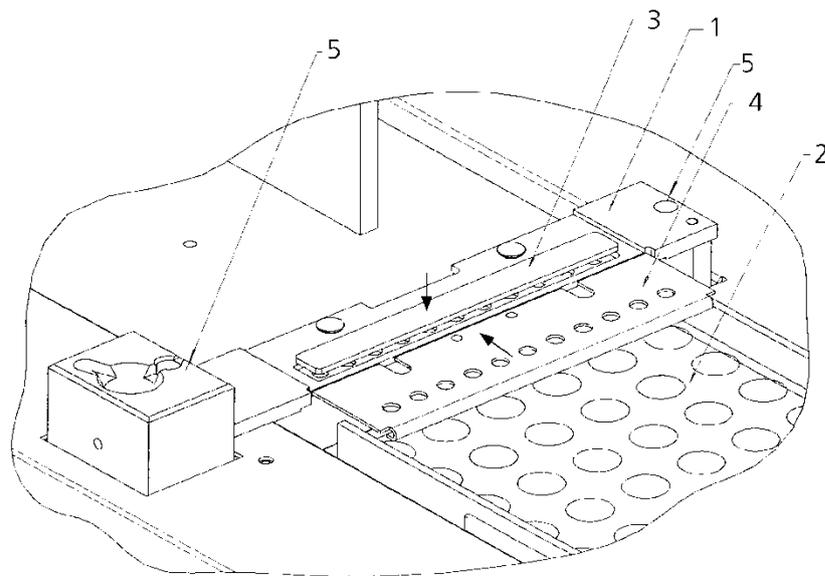

Fig. 9: Sample rack, baffle bridge with septum foil and rinsing unit
- If you apply samples from open vials use the optional baffle bridge with septum foil (CAMAG part number 022.7460, see Fig. 9). The septum foil (CAMAG part number 022.7462) is inserted with the Teflon layer face down and secured with the foil holder. The septum foil serves the same purpose as a septum on a sample vial and can be used with well-plates without closure. See also part “Mounting the baffle bridge with septum foil”.